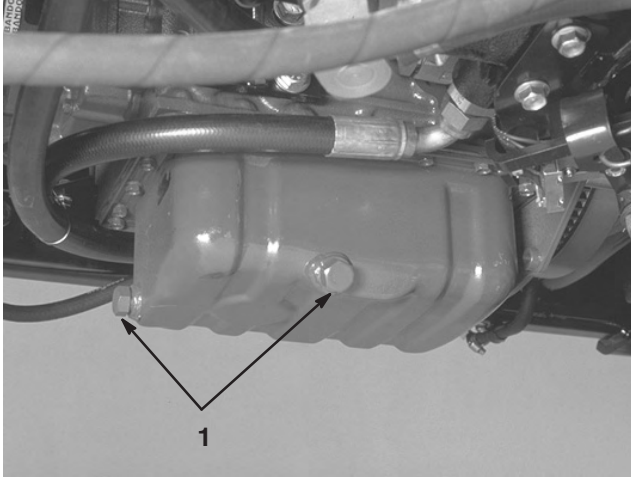

Figure 38
1. Remove either drain plug (Fig. 38) and let oil flow into a drain pan. When the oil stops flowing, install the drain plug.